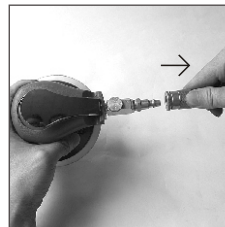

Figure 5
2. Disconnect tool from air supply. (See Figure 5)
1. Disconnect the tool from air supply. (See Figure 5)